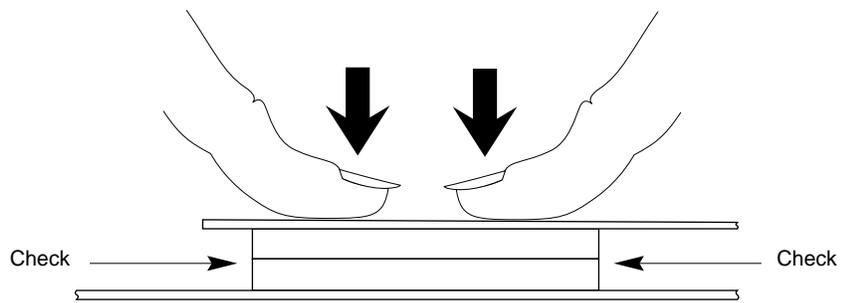

Figure 2-9 Seating the X Board's Connectors
2. Press to seat the X board's connectors into the Z board's connectors, as shown in Figure 2-9.
- Look underneath the X board to see the 96-pin connectors. Due to the other components on the board, it may be difficult to see the connectors. The male and female connectors must be touching along the entire shared surface, as shown in Figure 2-9. Be sure to check each end of the connector.